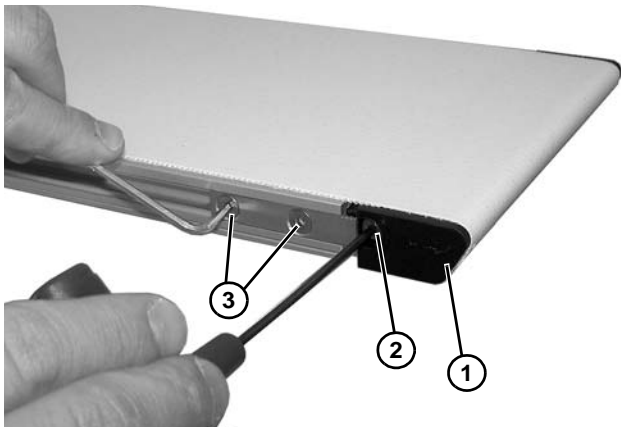

Figure 26
- On tension end of the conveyor, adjust idler end (**Figure 26, item 1**) tracking cam (**Figure 26, item 2**) to adjust head plate assembly just enough to remove slack in the belt.
- Tighten screws (**Figure 26, item 3**) to 12 in-lb (1.4 Nm).